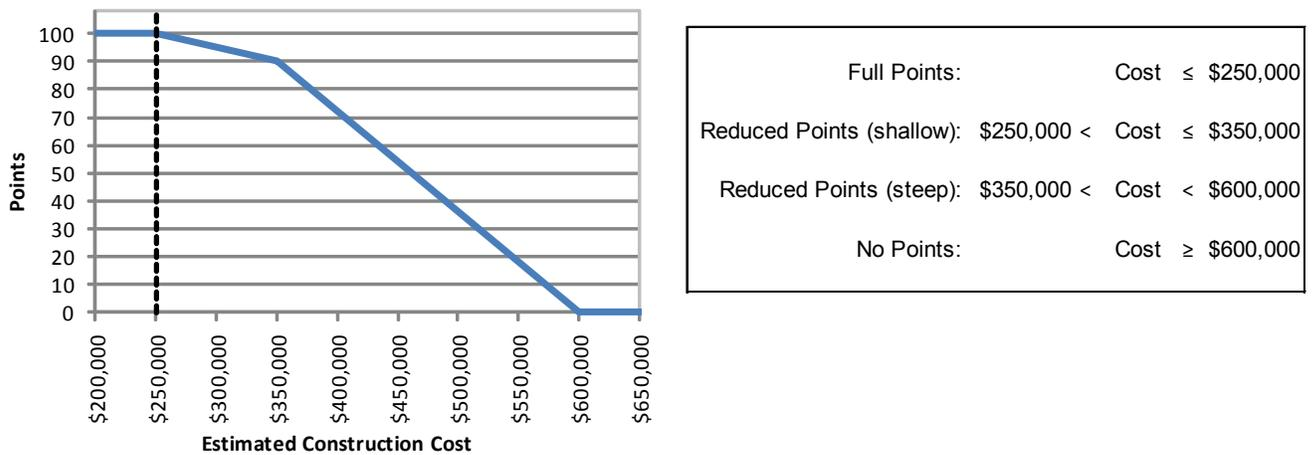

Figure 2: Scoring function for the Affordability Contest
- Reduced points are earned for a construction cost between \$250,000 and \$600,000. No points are earned for a construction cost at or above \$600,000. Reduced points are scaled linearly, as shown in Figure 2.